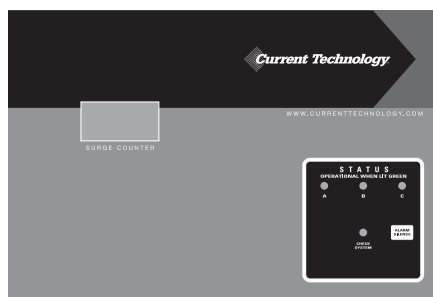

Figure 7
► If your ISM has the M2X Option (See Figure 7):